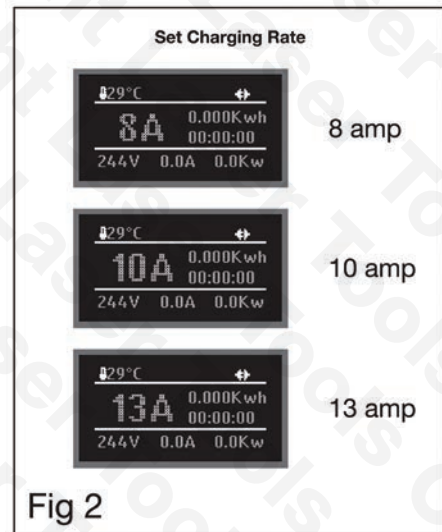

Fig 2
3. Set the input current (amps) to be used by pressing the set input amps button (A). Refer to **Figure 2**, there are three rates of charge: 8A, 10A and 13A, and this is displayed as the button is pressed.